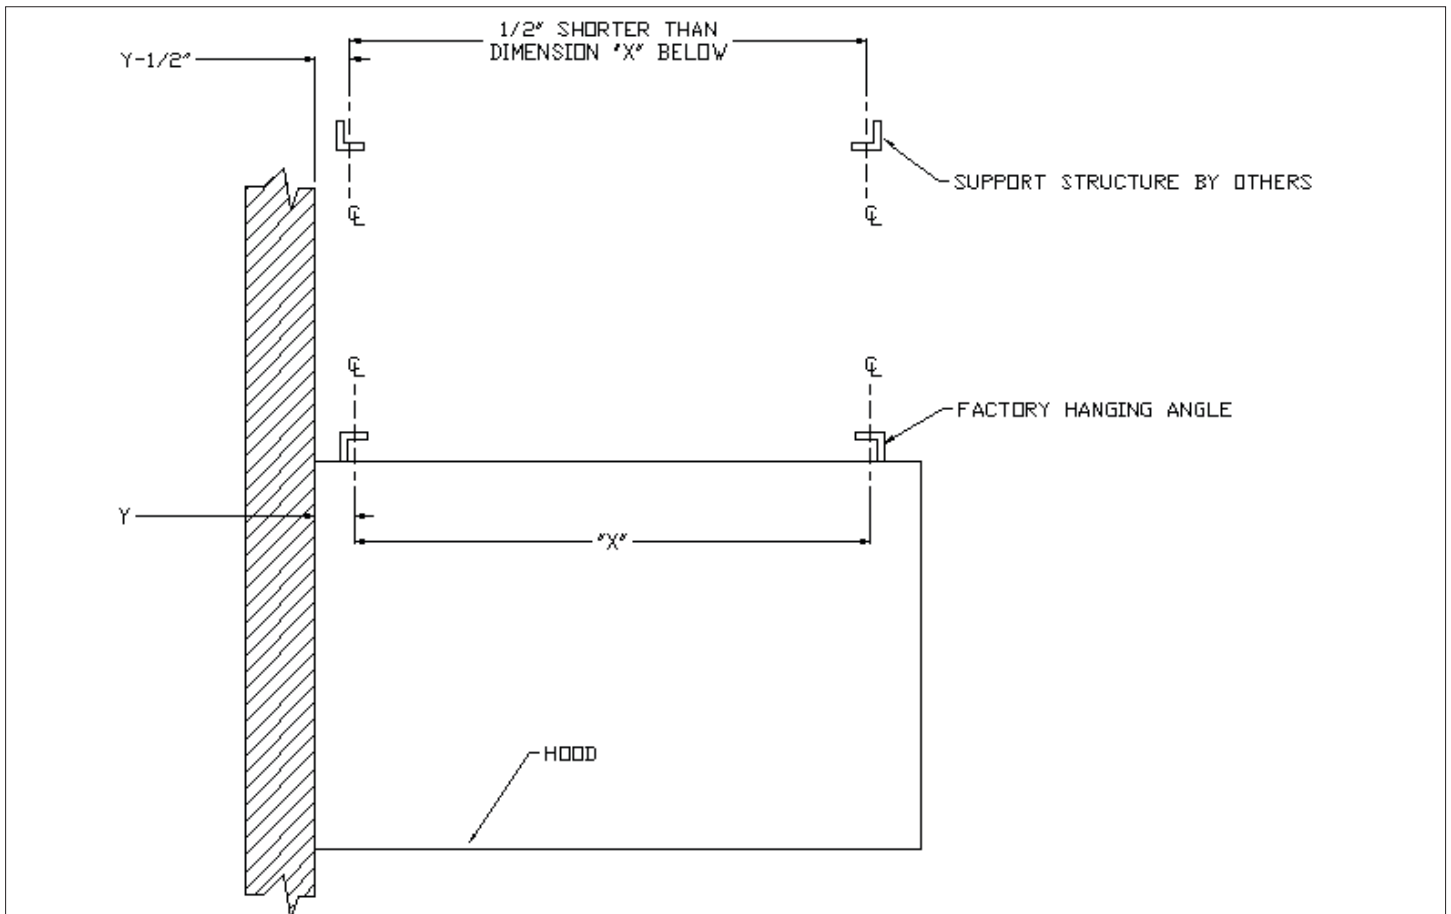

FIGURE 3
9. The spacing on the hole for the modified support should line up with the mounting bracket on top of the hood. The top hanger should be 1/2" closer to the back wall than the mounting bracket on the hood to pull the hood against the wall. **See Figure 3.** Some hoods are designed for island installations where a wall is not present.